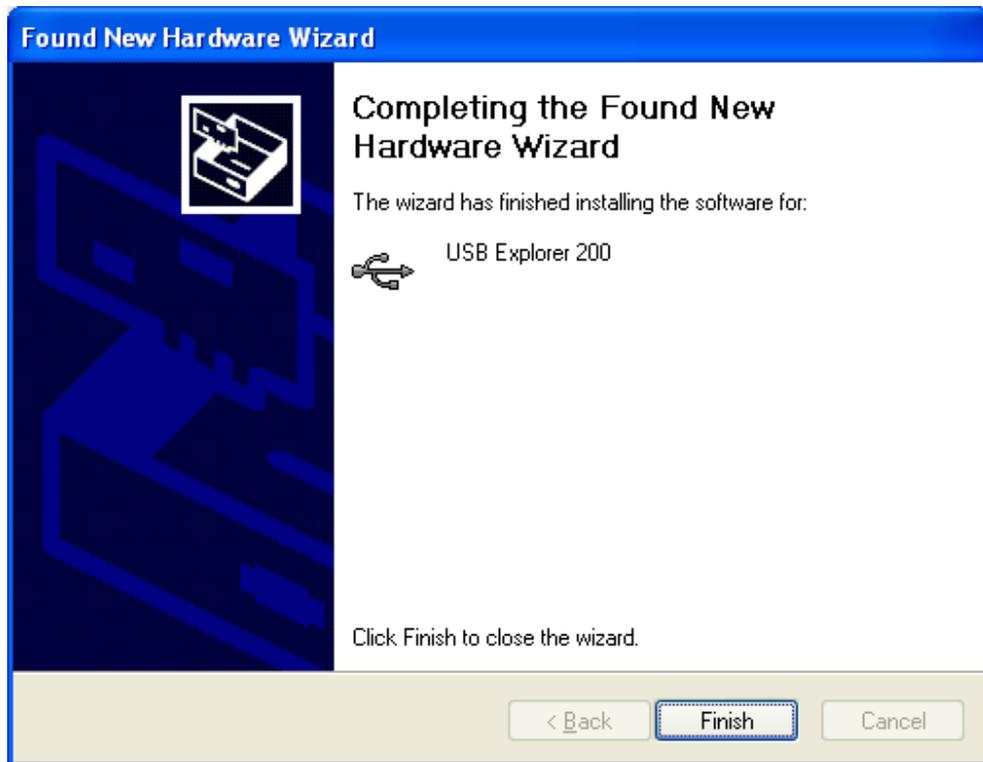

Figure 28 – Driver installation completed
- After the new files have been copied, the installation is completed (see Figure 28).